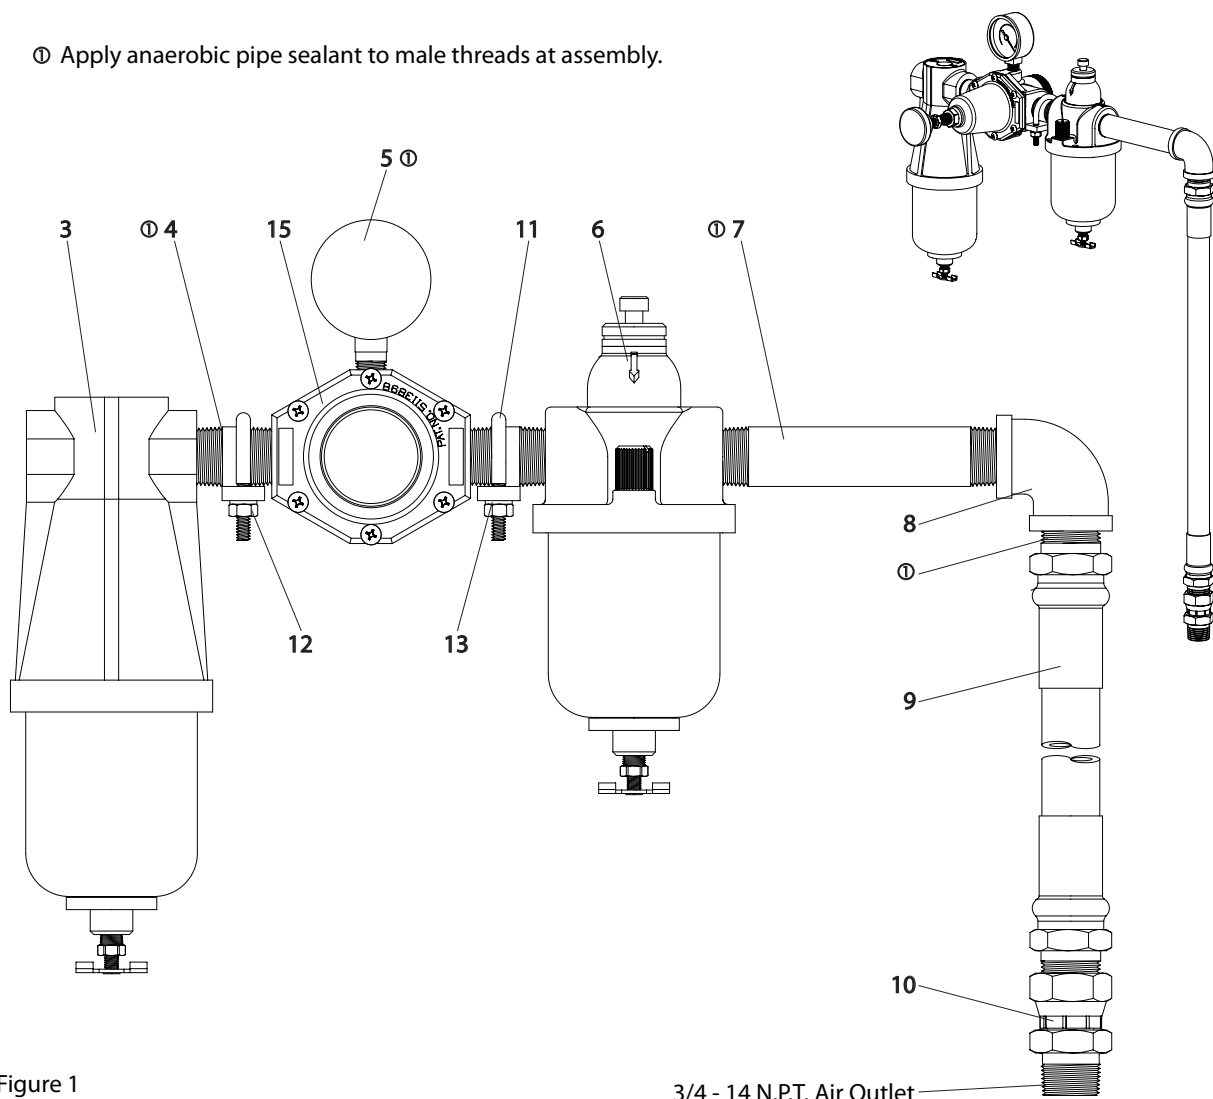

Figure 1
2. Using four (16) cap screws and four (13) lock washers, fasten the mounting plates to the four holes located on the top of the mounting arm.
3. Place the air manifold assembly on the mounting plates and secure using two (11) "U" bolts, four (13) lock washers and four
(12) nuts (see figures 1 and 2).